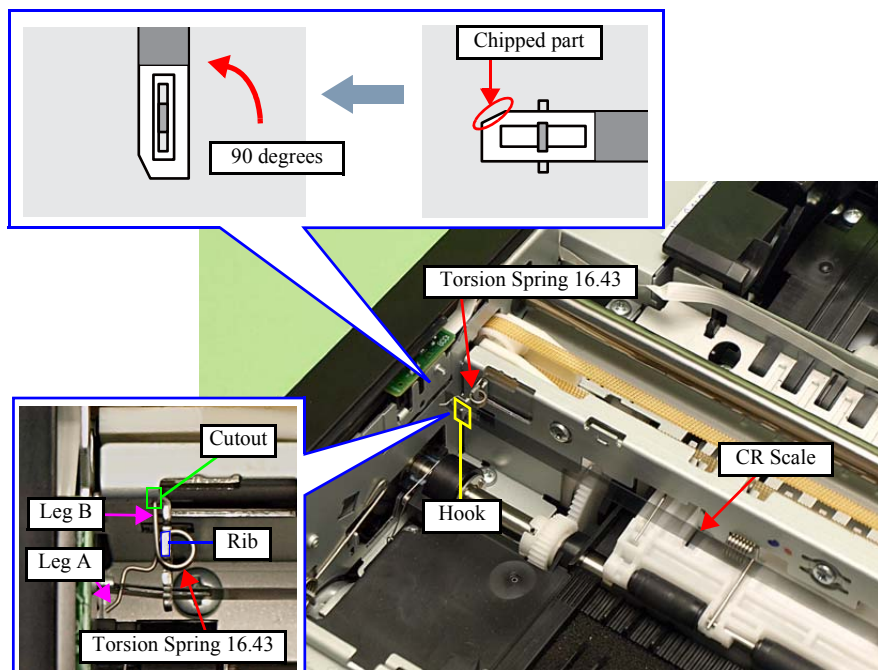

Figure 4-70. Removing the CR Scale(2)
- Attach the CR Scale to the hook on the left of the printer with the chipped part upward. (See Fig. 4-70.)
- When installing the Torsion Spring 16.43, follow the procedure below. (See Fig. 4-70.)